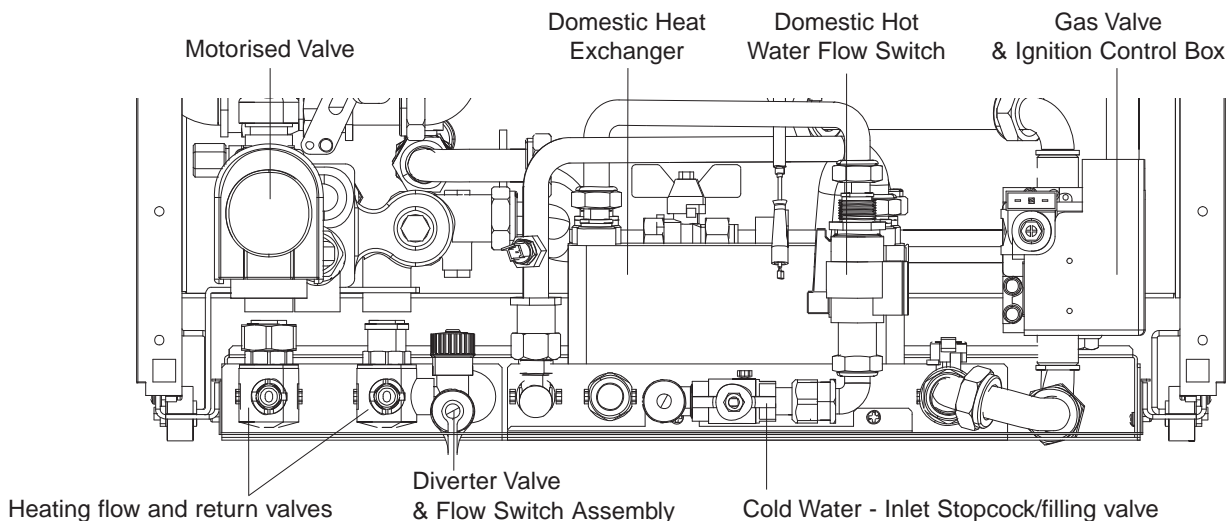

Fig. 36
8.15.3 Close heating flow and return valves (fig.36), by turning ~ turn until indicating lines are horizontal. Pull lever on head of safety valve to drain primary circuit to boiler.
Refer to fig. 36
Refer to figs. 36 & 38
8.19.6 Close heating flow and return valves (fig. 36) by turning ~ turn until indicating lines are horizontal. Pull lever on head of safety valve to drain primary circuit to boiler.
8.20.5 Close heating flow and return valves (fig. 36) by turning ~ turn until indicating lines are horizontal. Pull lever on head of safety valve to drain primary circuit to boiler.
- 8.22.3 Close heating flow and return valves (fig. 36) by turning ~ turn until indicating lines are horizontal. Pull lever on head of safety valve to drain primary circuit to boiler.